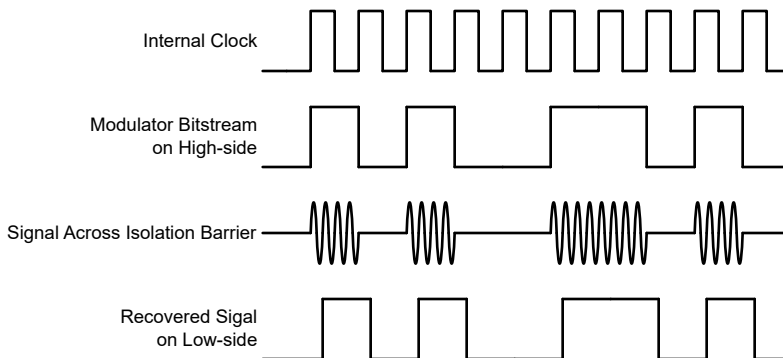

Figure 7-1. OOK-Based Modulation Scheme
The AMC0x11D-Q1 uses an on-off keying (OOK) modulation scheme, as shown in Figure 7-1, to transmit the modulator output bitstream across the SiO₂-based isolation barrier. The transmit driver (TX) as illustrated in the Functional Block Diagram transmits an internally generated, high-frequency carrier across the isolation barrier to represent a digital *one*. However, TX does not send a signal to represent a digital *zero*. The nominal frequency of the carrier used inside the AMC0x11D-Q1 is 480MHz.